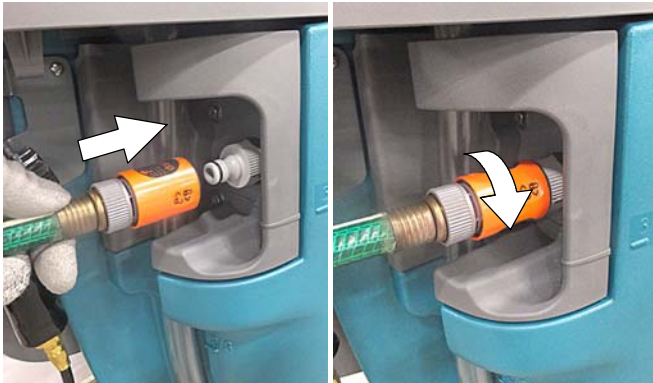

FIG. 23
- Press the quick-disconnect coupler into the nipple fitting unit it clicks (Figure 23). To prevent hose from being pulled out while tank is being filled, turn collar on coupler clockwise to lock connection.